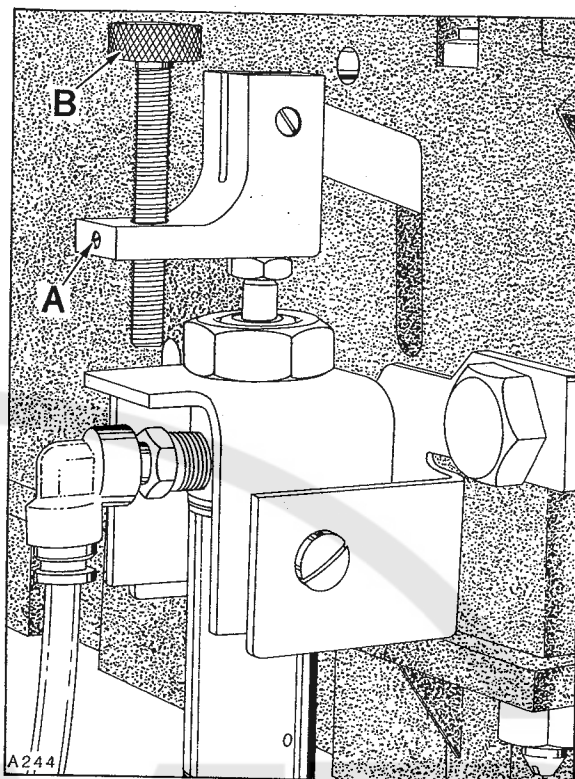

Fig. 41
Stitch shortening device is set at the factory to produce one-half of the recommended stitch length per inch. If adjustment is required loosen lock screw (A, Fig. 41) and turn stop screw (B) clockwise for less stitches per inch, counterclockwise gives more stitches per inch.